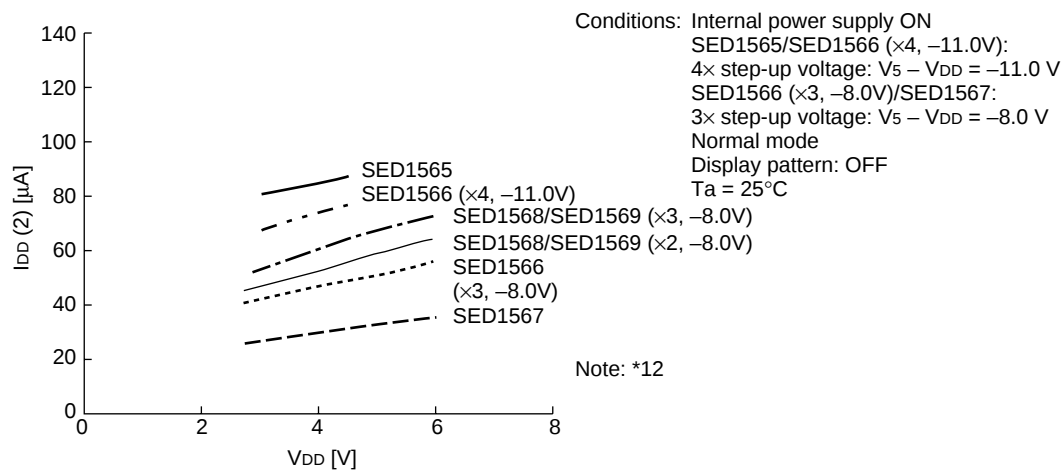

Figure 33
- *2 The operating voltage range for the V_{DD} system and the V_5 system is as shown in Figure 33. This applies when the external power supply is being used.
- *3 The A0, D0 to D5, D6 (SCL), D7 (SI), $\overline{RD}$ (E), $\overline{WR}$ (R/ $\overline{W}$), $\overline{CS1}$, CS2, CLS, CL, FR, M/S, C86, P/S, $\overline{DOF}$, $\overline{RES}$, IRS, and HPM terminals.
- *5 The A0, $\overline{RD}$ (E), $\overline{WR}$ (R/ $\overline{W}$), $\overline{CS1}$, CS2, CLS, M/S, C86, P/S, $\overline{RES}$, IRS, and HPM terminals.
- *6 Applies when the D0 to D5, D6 (SCL), D7 (SI), CL, FR, and $\overline{DOF}$ terminals are in a high impedance state.
- *7 These are the resistance values for when a 0.1 V voltage is applied between the output terminal SEGn or COMn and the various power supply terminals (V1, V2, V3, and V4). These are specified for the operating voltage (3) range.